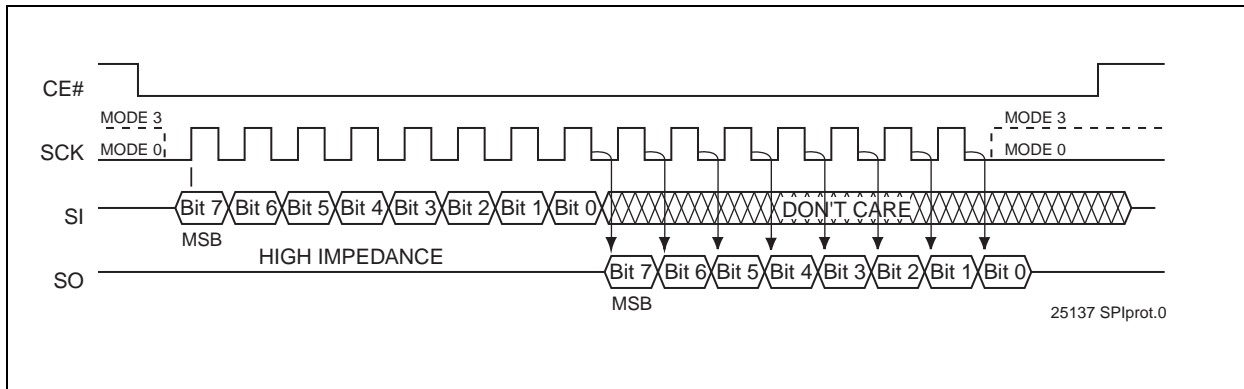

FIGURE 4-1: SPI PROTOCOL
The SST25PF080B supports both Mode 0 (0,0) and Mode 3 (1,1) of SPI bus operations. The difference between the two modes, as shown in Figure 4-1, is the state of the SCK signal when the bus master is in Standby mode and no data is being transferred. The SCK signal is low for Mode 0 and SCK signal is high for Mode 3. For both modes, the Serial Data In (SI) is sampled at the rising edge of the SCK clock signal and the Serial Data Output (SO) is driven after the falling edge of the SCK clock signal.